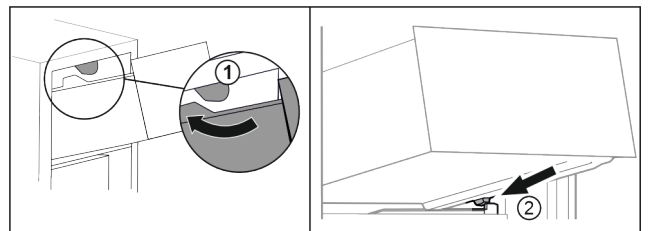

Fig. 18
- ▶ Guide drawer around the upper stoppers. Fig. 18 (1)
- ▶ Place drawer at an angle behind the lower stoppers onto moulded rib. Fig. 18 (2)